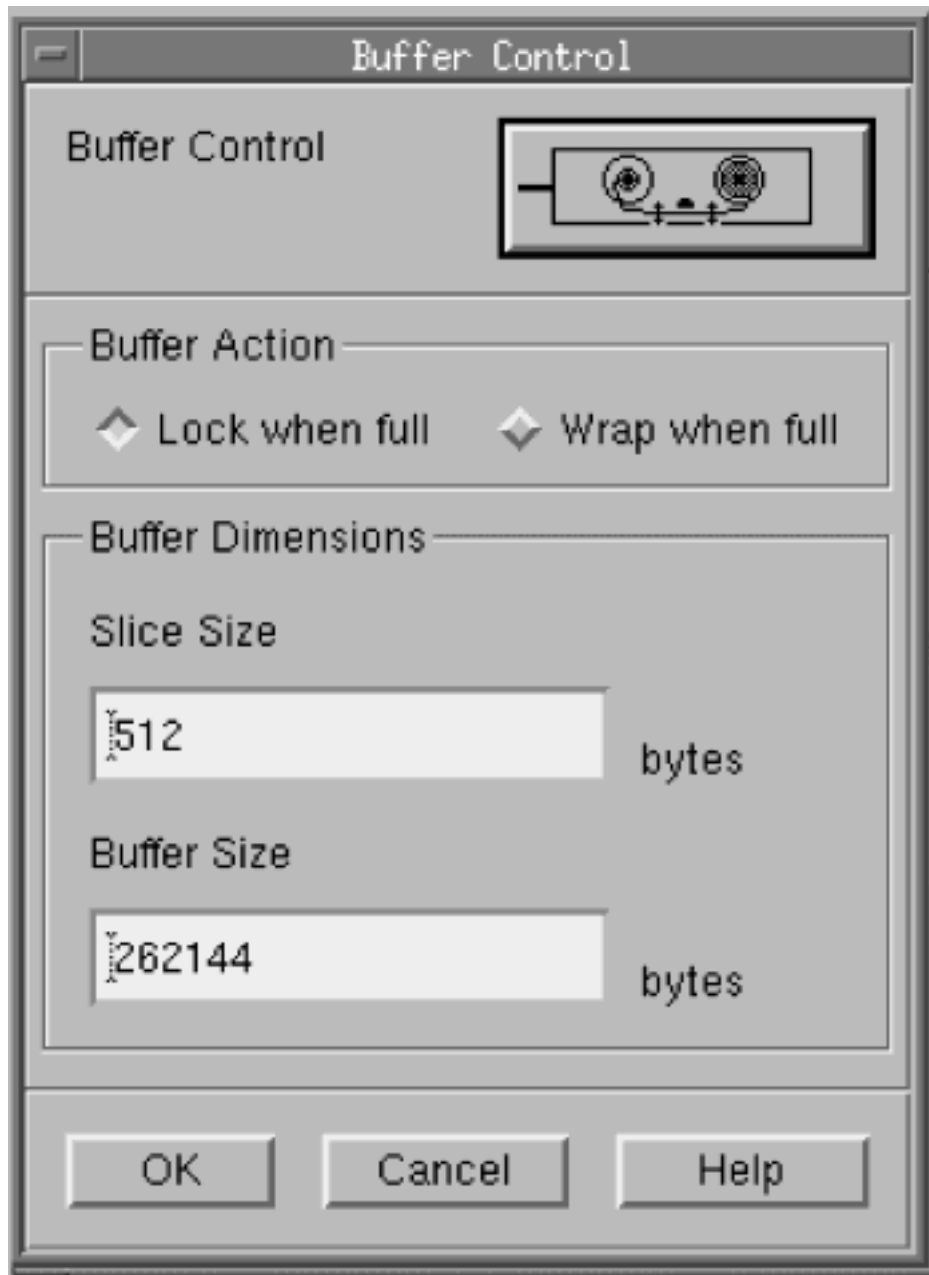

Figure 52. Buffer Control Dialog Box
- Click **Buffer** to specify how you would like the buffer to behave when storing packets. The Buffer Control dialog box opens, as shown in Figure 52 on page 105.